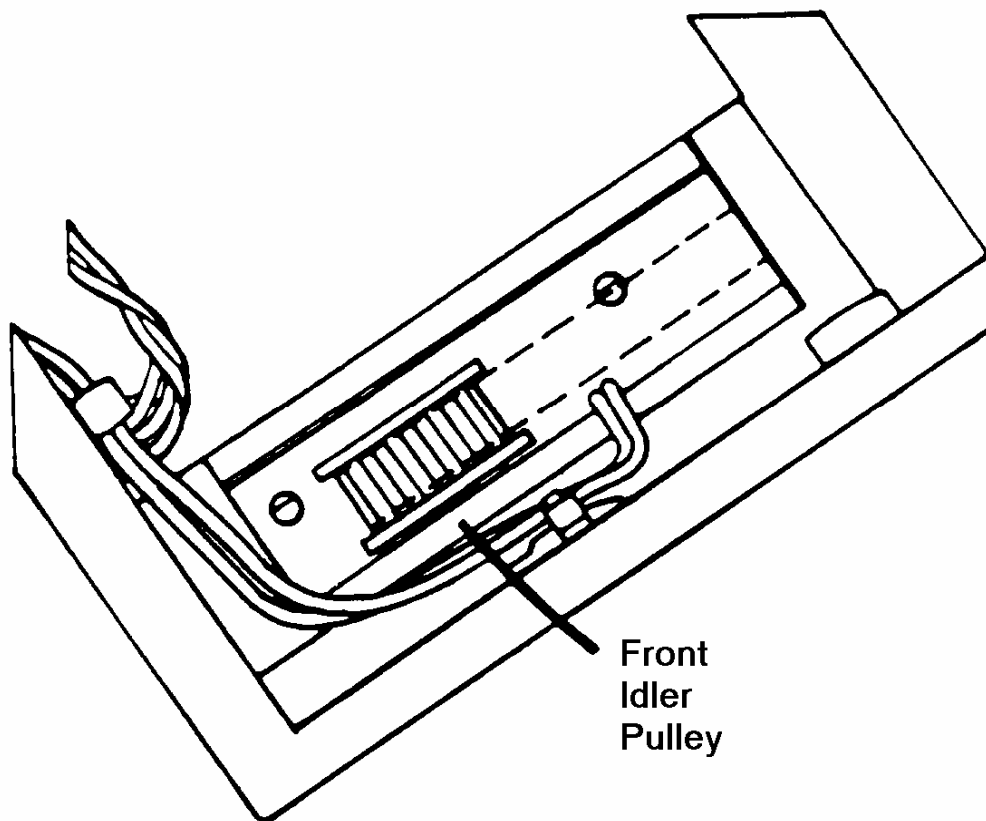

Figure 3-1. Front-idler pulley detail.
- (1) Perform steps 3-6f (1) through (5) as detailed above in the procedure for replacing the front-to-back belt.
- (2) Remove the front panel as outlined in the subparagraph above.
- (3) Loosen the tensioning pulley above the motor assembly.
- (4) Locate the front-idler pulley in the access hole below the right-hand side of the front panel. To determine the point of belt removal, see figure 3-1.